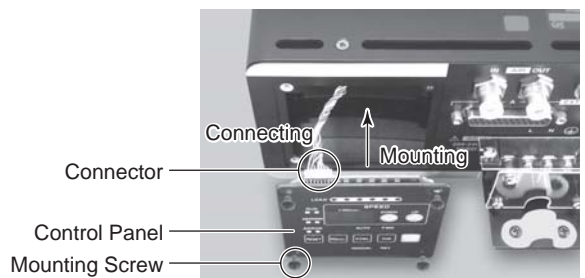

Fig. 22
- (3) Connect the connector inside the CONTROLLER to the connector of the rear of the Control Panel (Fig. 22).
- (4) Re-attach the Control Panel using the 4 mounting screws (Fig. 22).